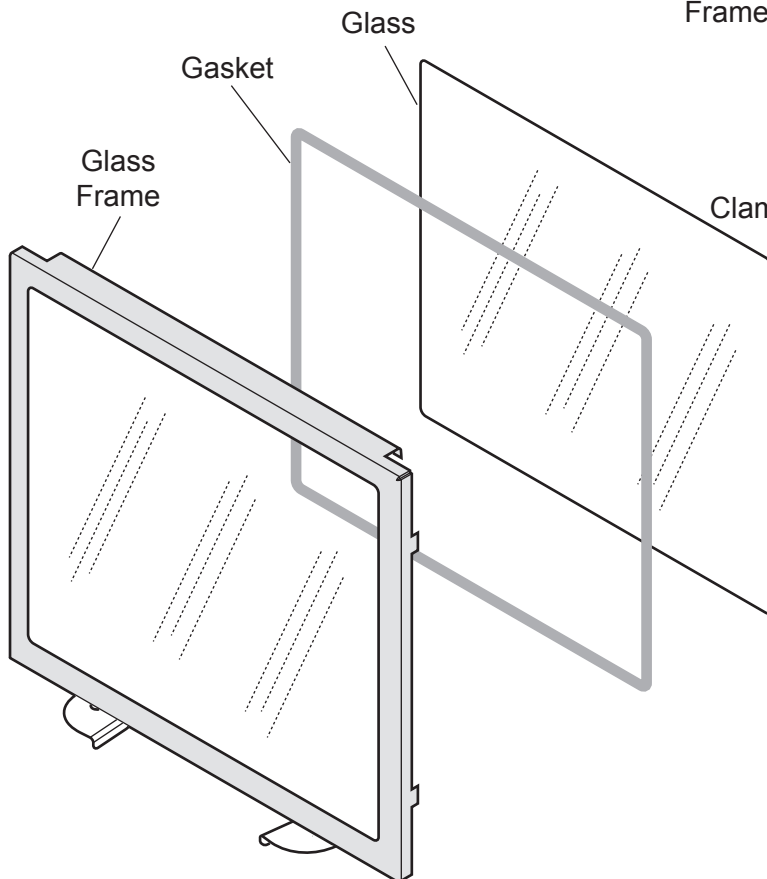

Figure 50 - Replacing Glass
7. Slide glass frame back down onto stove and fasten two clamps. *See Figure 50.*